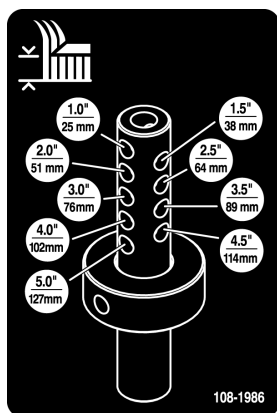

Figure 9
- Align the height-of-cut collar to the desired height-of-cut holes on the height of cut rod (Fig. 9).